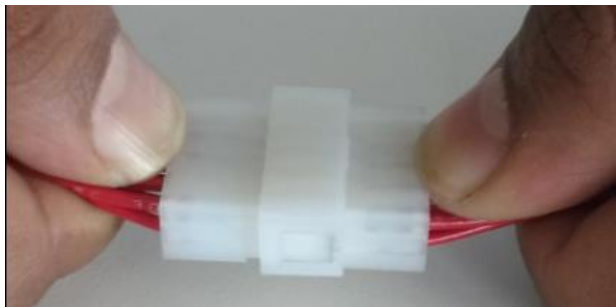

Fig.11
2. Press the receptacle housing in to the Plug housing until locks as shown in fig.11 and 12.